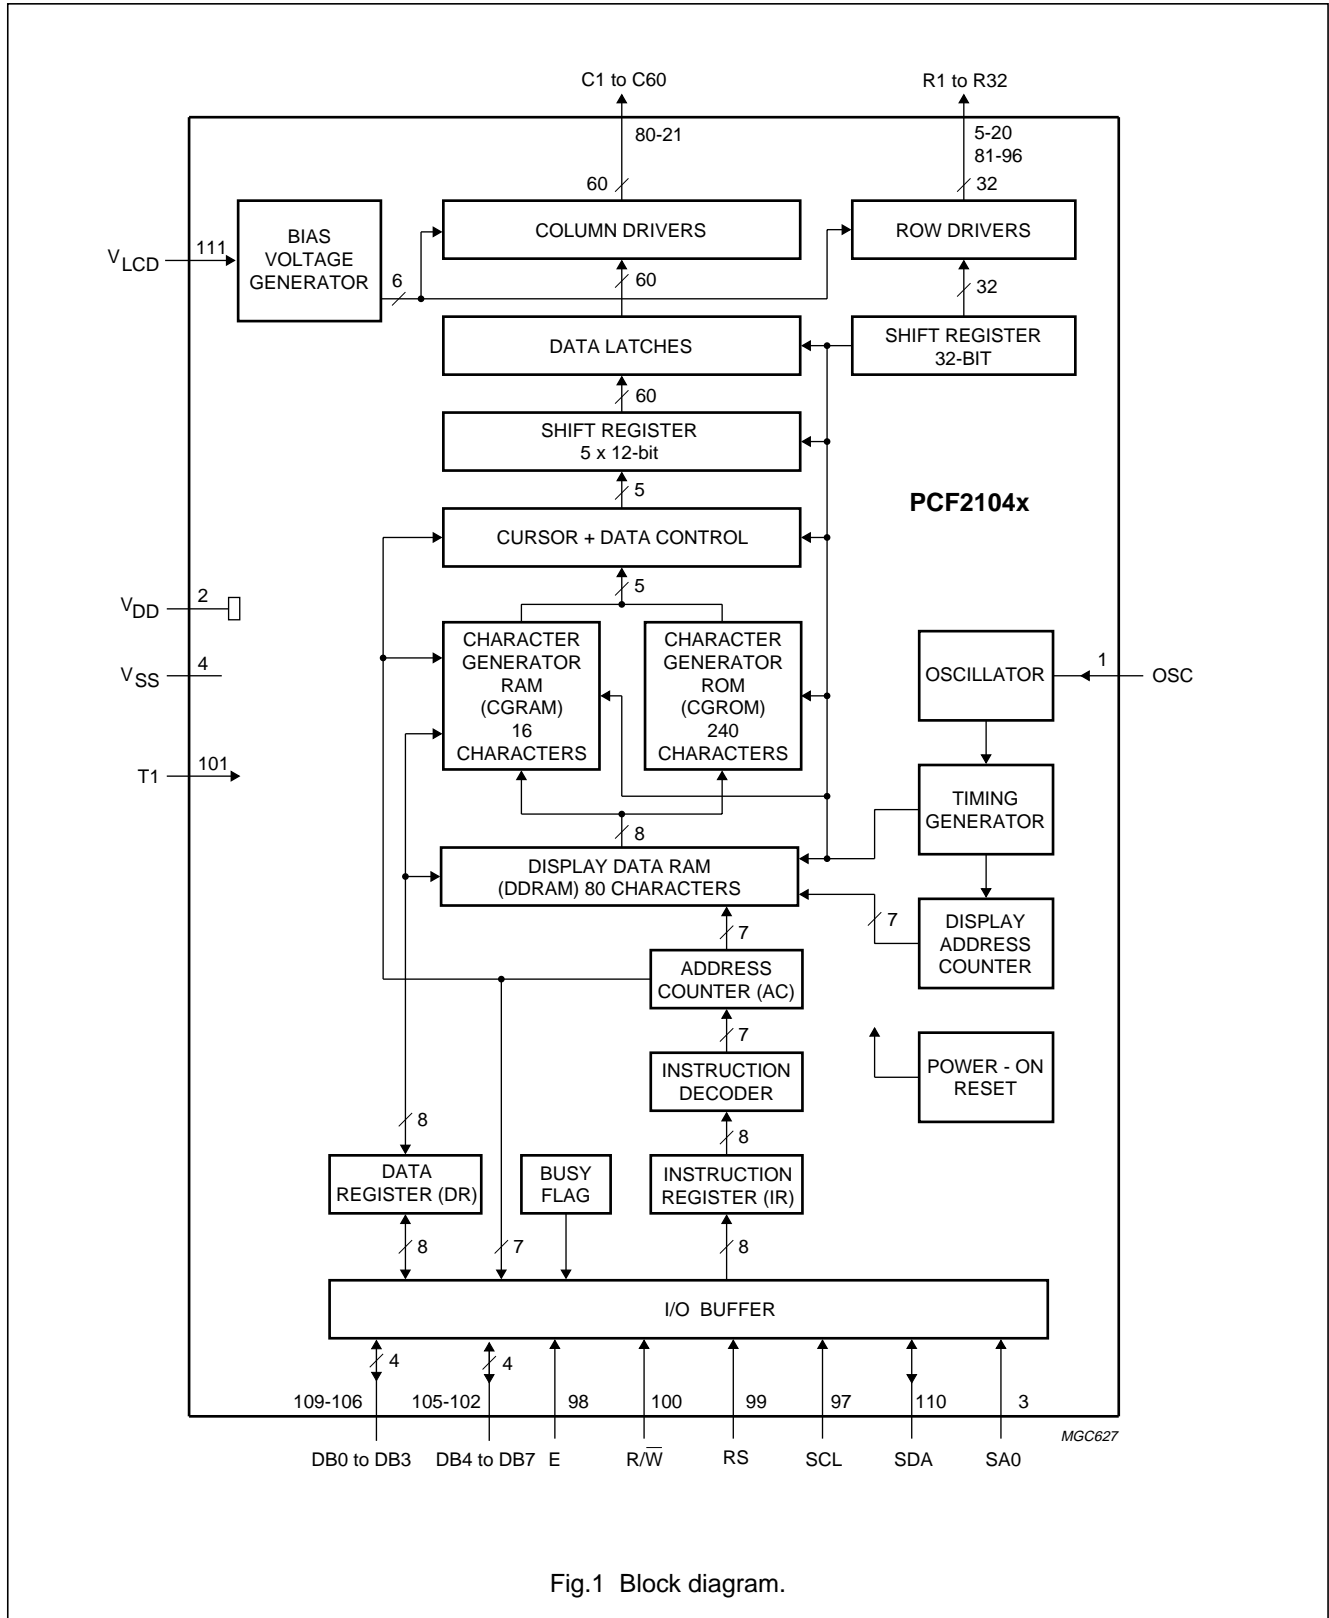

Fig.1 Block diagram.
**8 FUNCTIONAL DESCRIPTION** (see Fig.1)**8.1 LCD bias voltage generator**